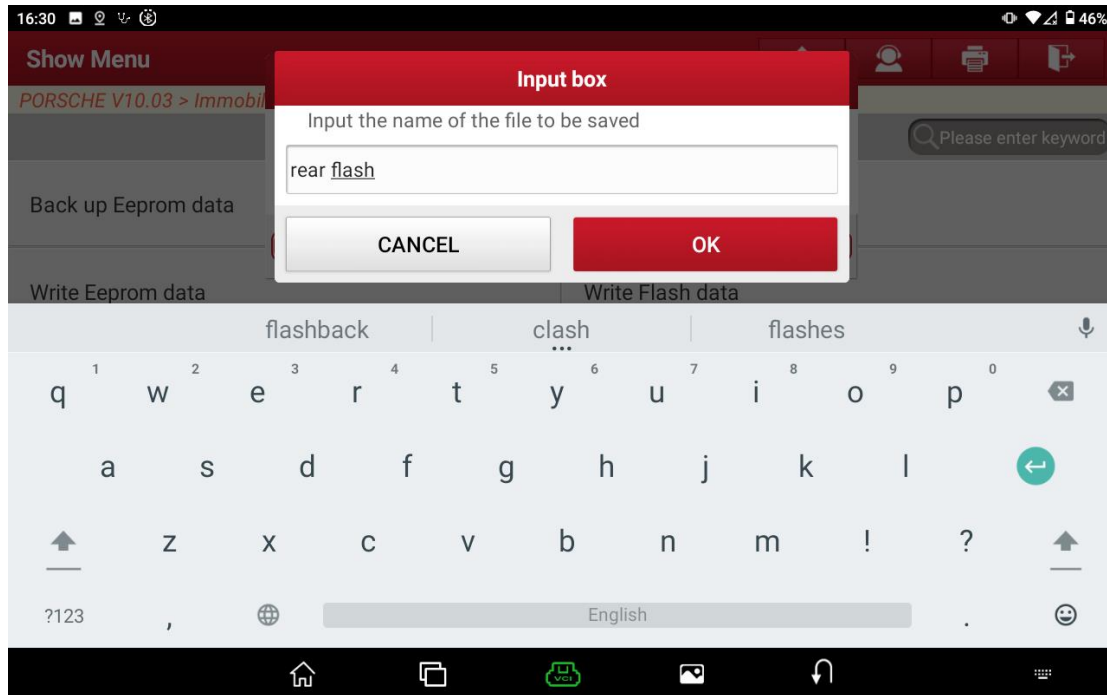
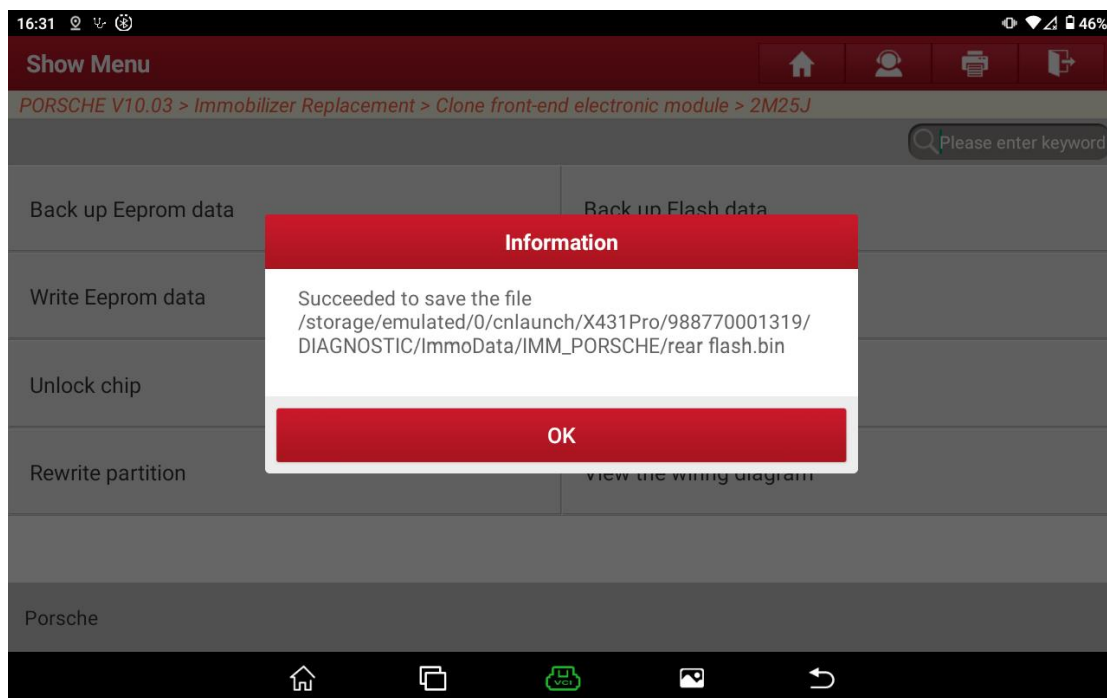

Figure 7
Figure 8
- 7. The FLASH data is large. After about 3 minutes, the FLASH data backup is successful. Input the file name and save the FLASH data file, as shown in Figure 7 and Figure 8.